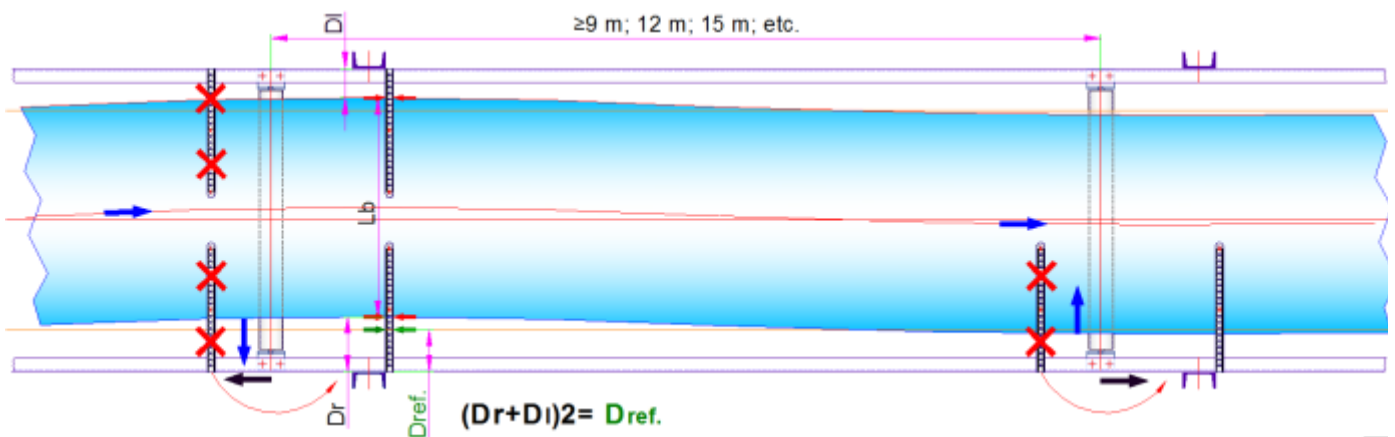

Figure 8 : Adjustment of brackets of bottom side, base of the method
**Method by comparison** (see Figure 8).
- Measure with a mechanic ruler (long 250-300 mm), bottom side, near the head pulley, the free space between the frame (outer side) and the belt edge, on each side of the conveyor. Add the 2 values and divide the result by 2. This calculated value corresponds to the distance between the belt edge and the outside edge of the frame or of a conveyor foot when the belt is centered on the conveyor axis (see Figure 8).